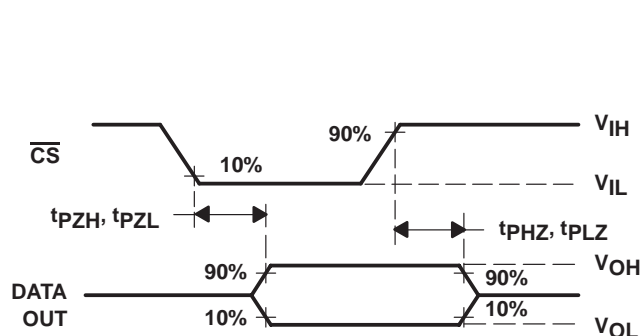

Figure 8. DATA OUT to Hi-Z Voltage Waveforms
10. I/O CLK period = $1 / (\text{I/O CLK frequency})$ (see Figure 8).